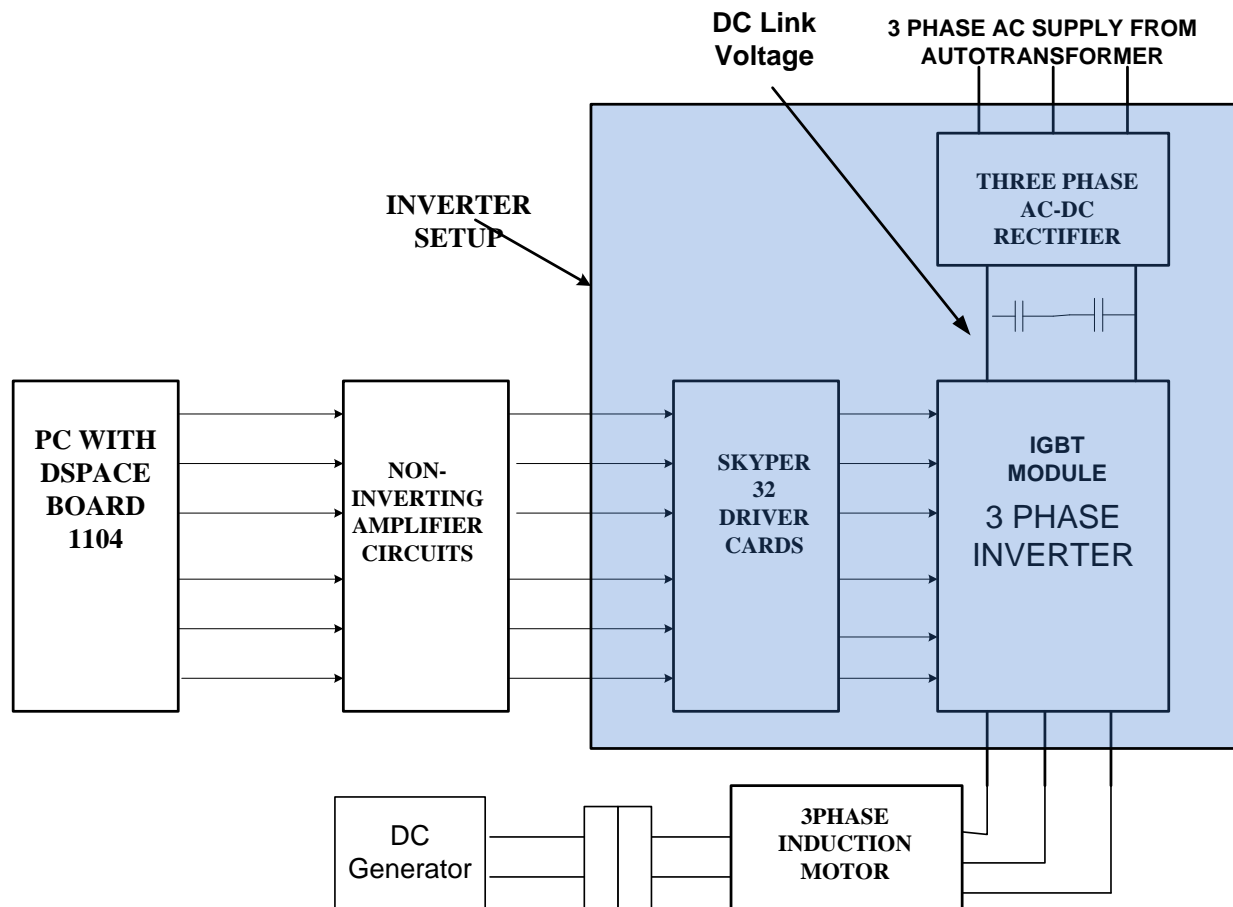
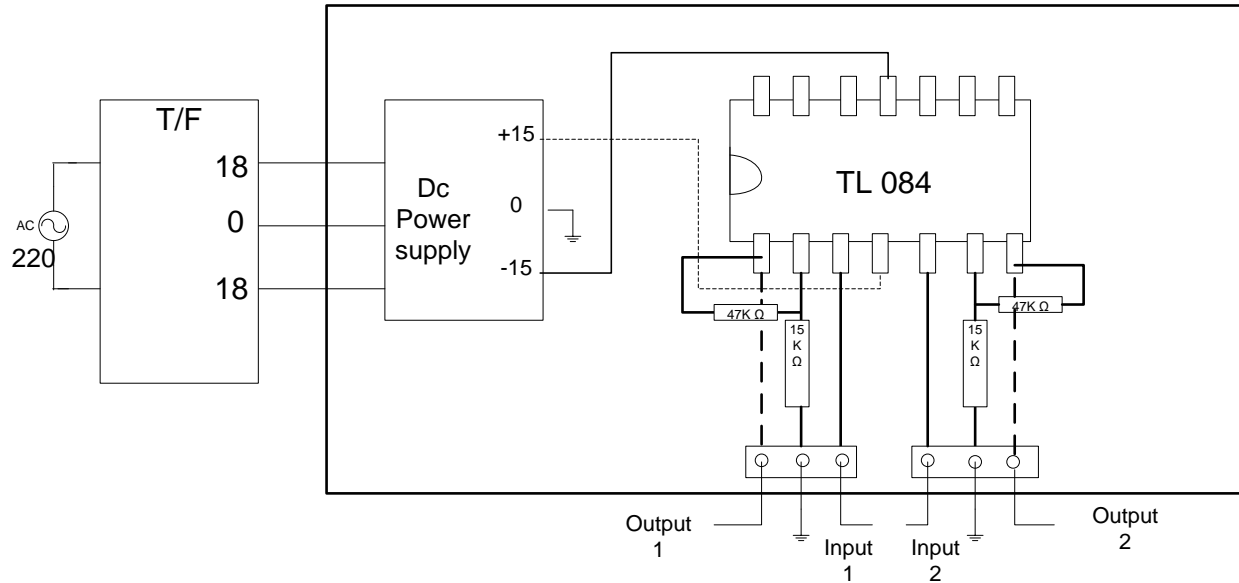

Fig. 1. The schematic for three phase inverter system
Fig. 3. Non-inverting Amplifier circuit
The set up in our laboratory has AC to DC rectifiers and then DC to AC inverters. The ac to dc rectifiers is used to generate dc link voltage. To vary the dc link voltage, we can feed the ac power using three phase autotransformer. The inverter has inbuilt driver Circuit (Skyper32R) in it, which needs the +15V power supply and the gate signal for the switches should have voltage level of 0/15V. The setup has facility that we can give the control signal from the outside which can be generated from dSPACE board. The output of dSPACE board is of TTL logic i.e., 0/5V, so we need to amplify the signal using non inverting amplifier circuit. The non-inverting amplifier (fig.3) circuit needs a ac input of 18-0-18 Volts from center-tapped transformer, to generate the power supply of $\pm 15V$ which is needed for the non-inverting amplifier circuit. The non-inverting amplifier circuit is given input of 5Volts and it is amplified to the level of 15V. The schematic for the entire setup for three phase inverter is given in the Fig.1.
- One board of non inverting amplifier circuit has two amplifier circuits in it (See Fig. 3). It has an inbuilt power supply of $\pm 15V$. Two signals for the switches (switches 1 and 4 or 3 and 6 or 5 and 2) of same leg should be given in the same board. The output of the amplifier should be fed to driver circuits. And the same board should be used to give the power supply to the driver circuit (Skyper32). Care should be taken that before switching on the ac power given to the amplifier board, signals from the dSpace board is given to the respective tagged wires of the circuit.